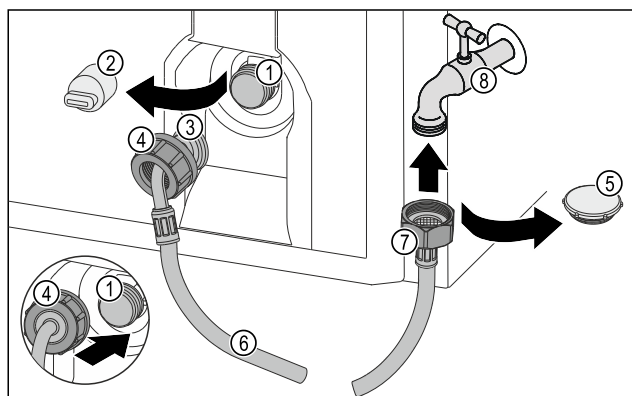

Fig. 15
- Remove the closure cap Fig. 15 (5).
- Place the straight end of the hose Fig. 15 (7) on the tap Fig. 15 (8).
- Tighten the nut at the straight end of the hose Fig. 15 (7) in a clockwise direction.